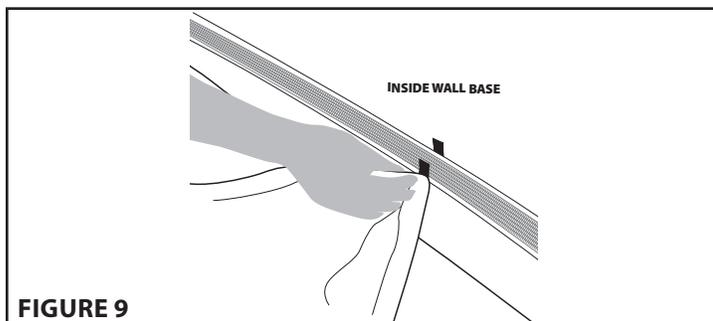

FIGURE 9
- Start at the center of each wall using the colored aligning tabs as guides. Press the hook and loop strips together, working towards the corners. [ SEE FIGURE 9 ]